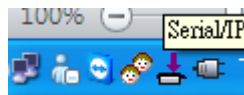

Figure 4.5 Serial/IP Notification Tray Icon
- In the Windows notification area (Figure 4.5), right click in the Serial/IP tray icon and click on **Configure** to open the Control Panel.
- Double click the Serial/IP tray icon in the Windows notification area (Figure 4.5).
- In the Windows notification area (Figure 4.5), right click in the Serial/IP tray icon and click on **Port Monitor** to open the Port Monitor.